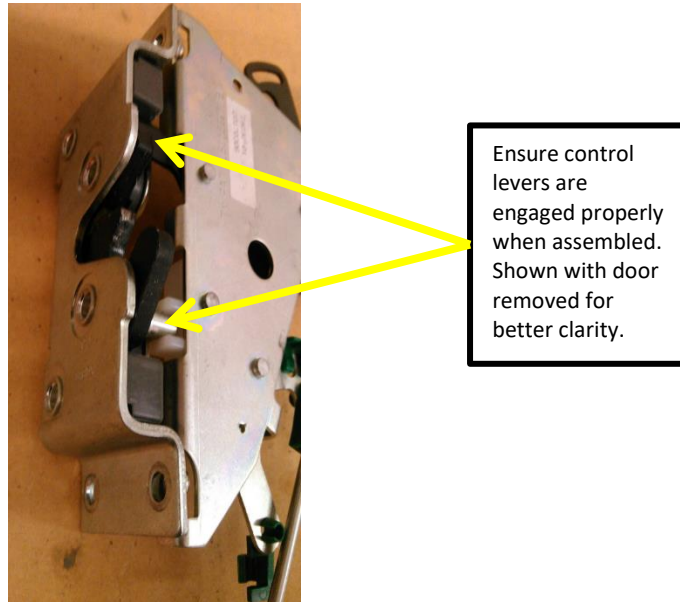

FIG.16-1
14. Install new door latches and fasteners: P.N. 0533-EE3-001, 0533-EE3-002, 0202-BB1-017 and M06100FNZ. NOTE: two fasteners toward outside of door utilize nuts for mounting. Ensure these do not fall into the door frame when removing or installing parts. Torque fasteners to 45 lbf-in. Refer to FIG. 15-1, FIG. 15-2 and FIG. 16-1.